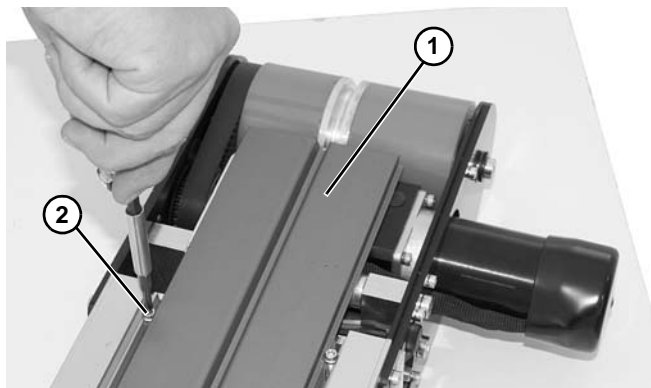

Figure 153
2. Remove wear plate (**Figure 153, item 1**) by removing plate fastening screws (**Figure 153, item 2**) on each side and end of conveyor